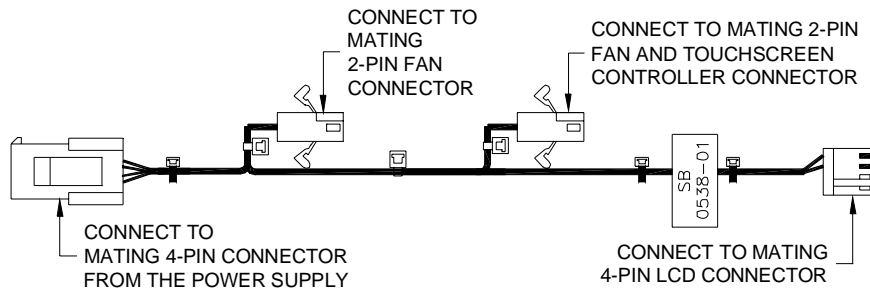

FIGURE 8 - TOUCHSCREEN & LCD POWER CABLE (SB0538-01) WITH CONNECTIONS
5. Connect the 4-pin mating connector on the provided touchscreen & LCD power cable (SB0538) to the remaining 4-pin connector coming from the new power supply (refer to Figure 8).
Continue connecting the touchscreen & LCD power cable as shown in Figure 8. For more detail follow the steps below: